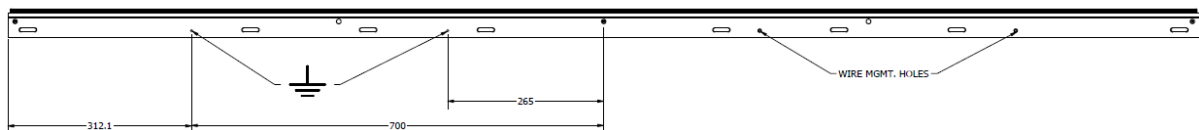

Figure 10: Grounding Hole & Wire Management Hole Detail from Frame Center
- Utilize marked grounding holes (see Figure 10) in frame. Where using common grounding hardware (lugs, nuts, bolts, star washers, split-ring lock washers, flat washers and the like) to attach grounding/bonding device, the attachment must be in conformance with the grounding device manufacturer's instructions. Grounding/ bonding devices must meet the IEC/UL 61730-2 the pass/fail criteria of a 100 mΩ resistance.